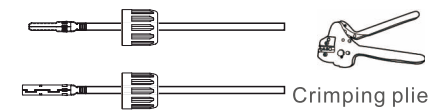

Figure 5.19 Crimp the contact pin to the wire
3. Crimp the contact pin to the wire using a proper wire crimper. (see Figure 5.19)